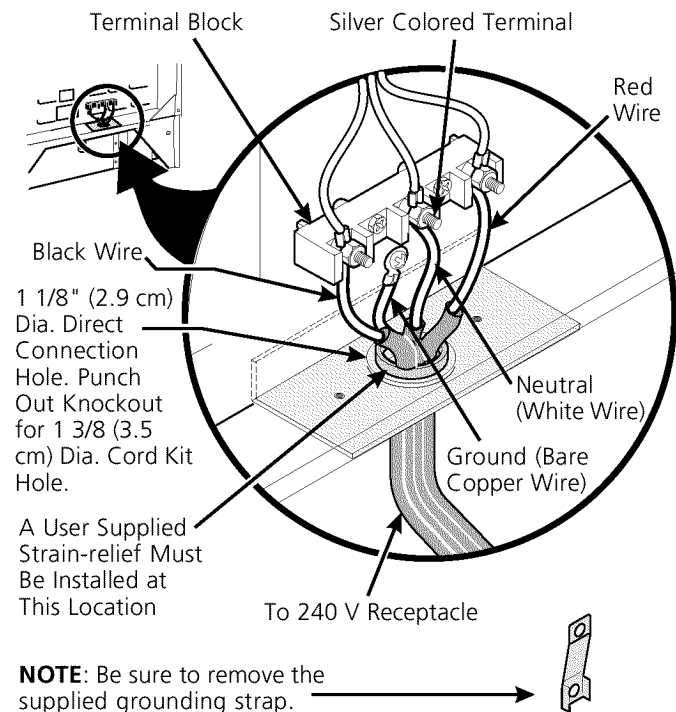

Figure 5
For mobile home, new installations, recreational vehicles, or areas where local codes do not permit grounding through neutral, a 4 conductor power supply cord kit rated at 125/250 volts minimum, 40 amperes and marked for use with ranges should be used (see Figure 5).
4. Connect the ground wire (green) of the copper power supply cord to the frame of the appliance with the ground screw, using the hole in the frame where the ground strap was removed (see Figure 5).
6. Replace the 3 nuts on the terminal block (see figure 5).
If the appliance is connected directly to the circuit breaker, fuse box or junction box, use flexible, armored or nonmetallic sheathed copper cable (with grounding wire). Supply a U.L. listed strain-relief at each end of the cable. At the appliance end, the cable goes through the Direct Connection Hole (see Figure 5) on the Cord Mounting Plate. Wire sizes (**copper wire only**) and connections must conform to the rating of the appliance.